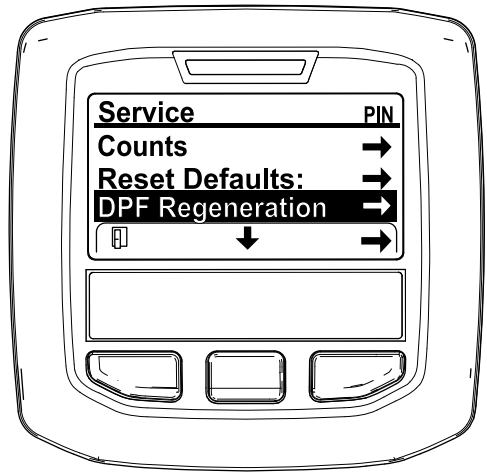

Figure 46
3. In the SERVICE MENU, press the middle button until the DPF REGENERATION options displays, and press the right button to select the DPF REGENERATION option (Figure 46).